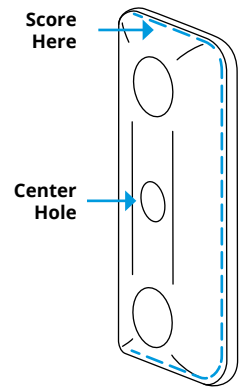

Figure 6
1. Apply silicone putty or equal to the center hole of the dummy making sure that it does not protrude from either side (Figure 6).
1. Using a knife, score the laminate around the edges of the dummy and expose the center hole filled with putty (Figure 6).